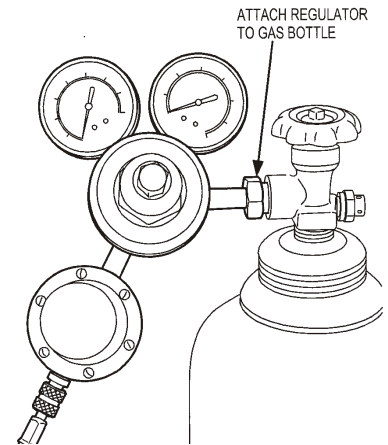

Fig. 4
5. Locate the Regulator Assembly and connect it to the Nitrogen Gas Cylinder (fig. 4) (Gas Cylinder Not Supplied).